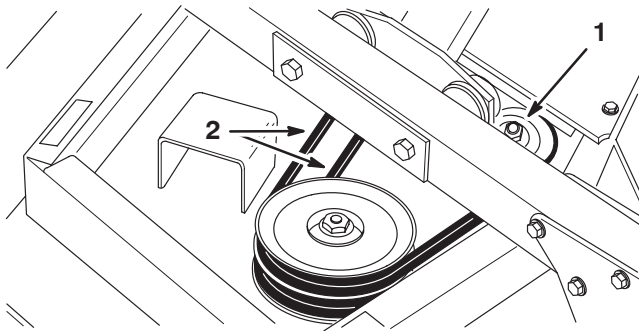

Figure 70
2. To tension belts, loosen flange locknut at top of idler pulley (Fig. 70). Slide pulley against belt until proper tension is reached. Hold pulley in position and tighten locknut.
3. Remove flange head screws securing gearbox plate to deck. To separate plate and drive motor assembly from deck, rotate plate end toward traction unit (Fig. 70). Tip plate, motor and pulley assembly on its side and remove from deck. Be careful not to bend, twist, kink or damage flexible hydraulic lines.
2. Remove deck covers and relieve belt tension on all belts (Fig. 70).